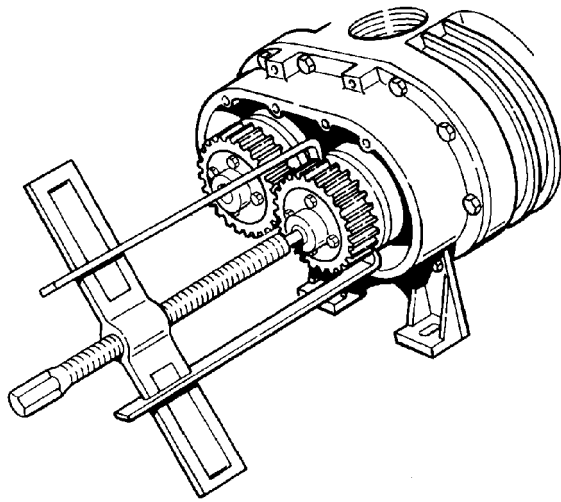

FIGURE 14
6. Remove each timing hub (39) and the timing gear (9) as a complete assembly with a gear puller. (See FIGURE 14). Do not remove timing bolts (38) or threaded taper pins (36), unless the gears or hubs will be replaced.